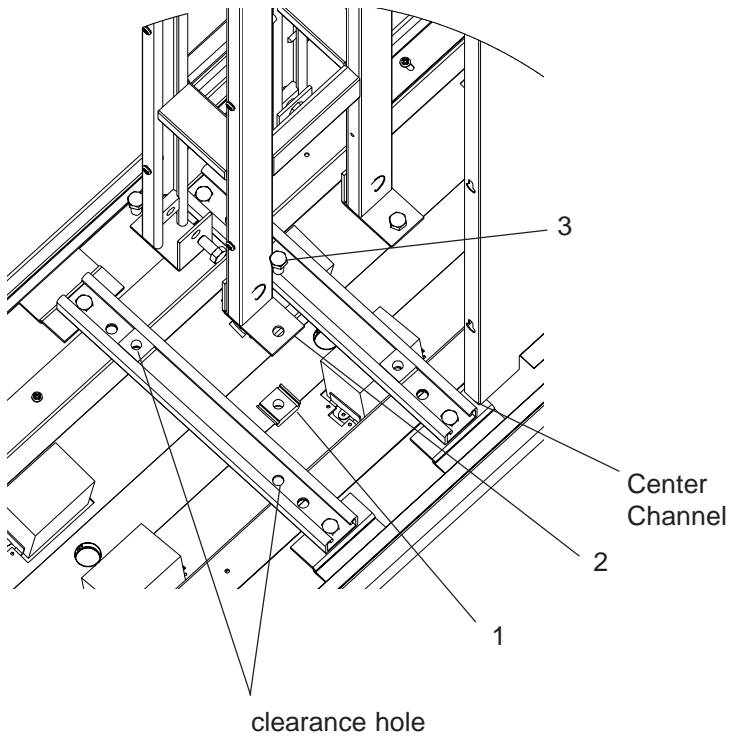

Fig. 6
8. Align item #1 (3/8 Spring Nut) and item #2 (Mounting Angle) with the clearance hole on the center channel (see Fig.6). Insert and fasten item #3 (3/8-16 x 1.50 Hex Cap Screw) to item #1 (3/8 Spring Nut) and clearance hole in Center Channel. **Do not tighten.**